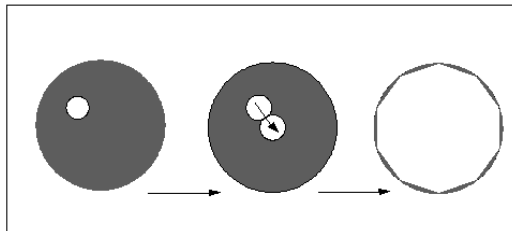

Fig. 12
Adjust the center adjustment screw ③ and center the image of the field diaphragm in the center of the field of view (see Fig.12).